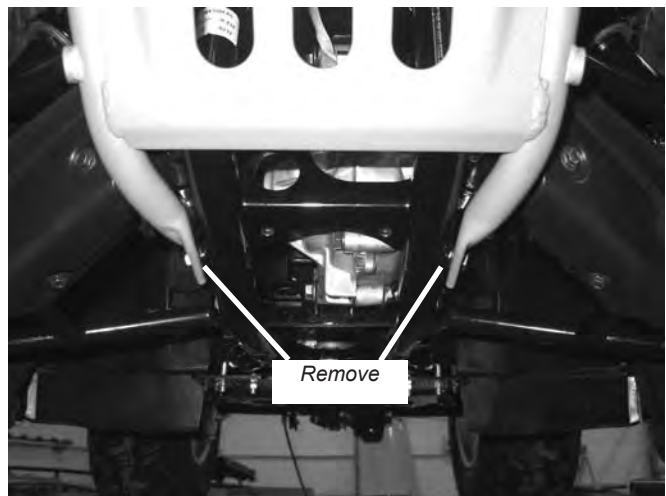

Figure 6 Remove Bottom Bumper Bolts
6. Remove the two bottom bumper bolts that attach the bumper to the bottom of the vehicle frame, figure 6. Save the fasteners as they will be used to reinstall the front bumper.